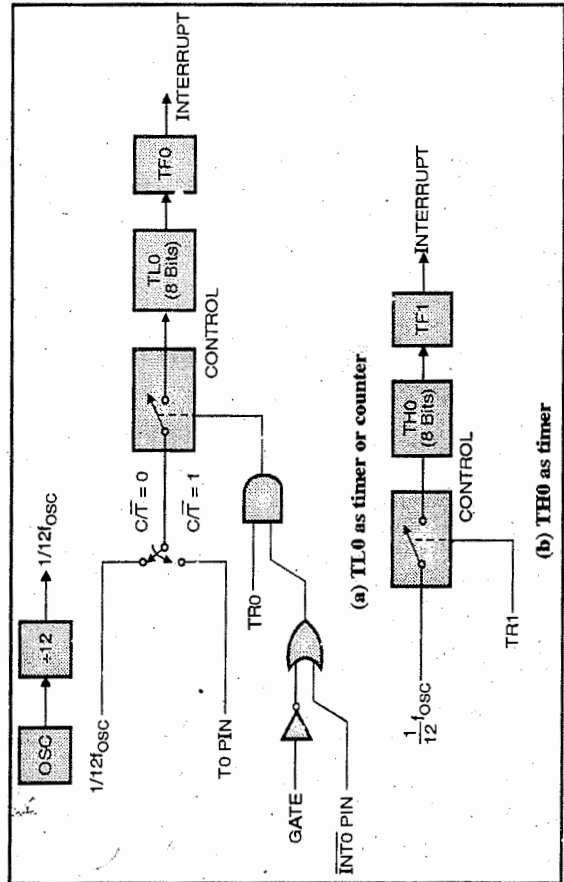

Fig. 1.20.6 : Timer / Counter 0 mode 3
- In mode 3 Timer 1 is not used. Timer 1 therefore simply holds its count. The timer 0 registers TL0 and TH0 are configured as two separate 8 bit counters. Fig. 1.20.6 shows Timer / Counter 0 mode 3.